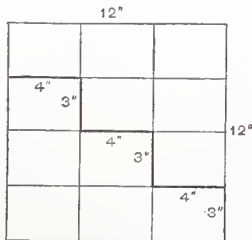

Fig. 2.—W. L. M.'s Method of Joining the Parts.
Figs. 1 and 2 of our novelties this month represent what is known to the trade as Clark's best quality screw-driver, the special feature of which is the handle. This handle is so constructed, as will be readily seen from inspection of the engraving, as to allow the bit to be taken from it at will. The tool is furnished in a neat box, as shown in Fig. 2, the set consisting of three sizes of bits and a handle. Taken altogether, it forms a very handy tool, and is one, we believe, that is destined to find many friends among mechanics. The handle is so con-
Novelties.—Fig. 2.—Case Containing Handle and Set of Screw Drivers.
Comments on First Prize Design.—Fig. 2.—Enlarged Plan of Front Hall from G. W. B.
Fig. 2 is for a case where there are two unequal flares to the hopper. On the right angle  $A^1 C D^1$ , at D, draw the two flares, as B A, B A', and for the side bevells make  $C D = A B$  and  $C D^1 = A^1 B$ , and connect A D and A' D' for the side bevells shown. Bisect the angles of the flares by the line B X; make  $C Y = B X$ , and on X, center, radius X Y, intersect at E, B E being square to C B; connect X E, and on C, center, strike an arc, touching X E to H; square H F to X H, and bisect X F in G, G bevel being the butt and F bevel the miter.
A. S. L. thinks I "have very curious ideas of hopper bevels," and thinks that "few mechanics can be found willing to use a bevel in the manner described by me." Well, I can't help A. S. L.'s geometrical or practical blindness to the advantage of using a bevel in the same manner in which a try-square is used—a manner, too, which makes one independent of whatever form the edge of board might be—say, with both edges rounded to a semicircle. In that case, how would A. S. L. apply the bevel to the edges by his rule? Does A. S. L. think that my present Fig. 2 "has not a single redeeming feature?" No, A. S. L., I am not at all "discouraged," nor do I need to "study carefully," &c., because my rule, as corrected, will, I think, be declared by the readers of this journal, when they weigh the matter, to be the best yet submitted for the solution of hopper bevels.
*Hopper Bevels.*—Fig. 2.—*Accompanying Letter from*